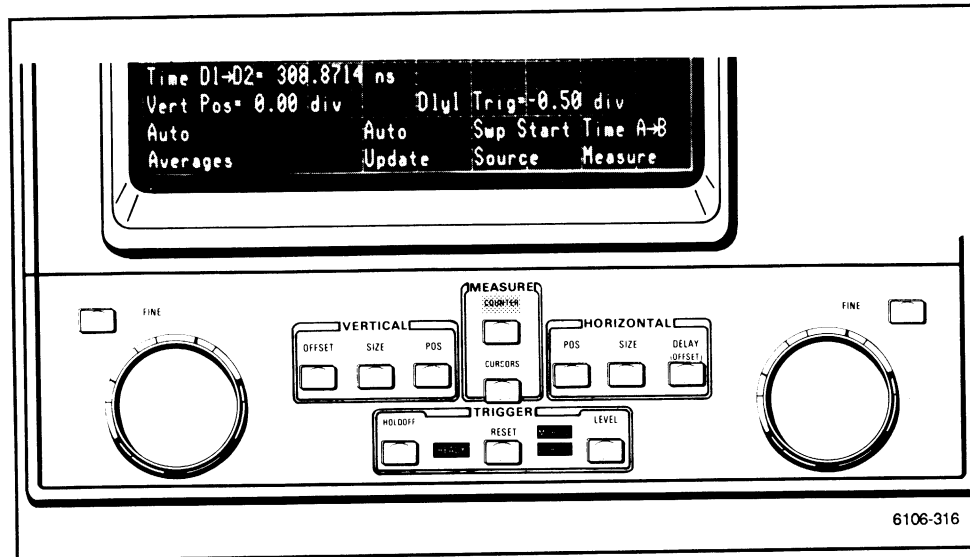

Figure 2-117. Time between events displayed as **Time D1→D2** in message area.
12. The measurement result, the time between the two events, appears at the lower left of the display as **Time D1→D2**. (See Fig. 2-117.)